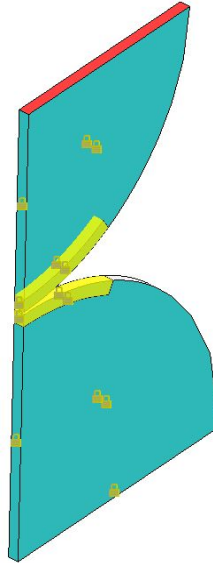

Figure 4: Boundary Conditions
- Select all components that contain contact connections (the components that are highlighted in yellow in figure 4)